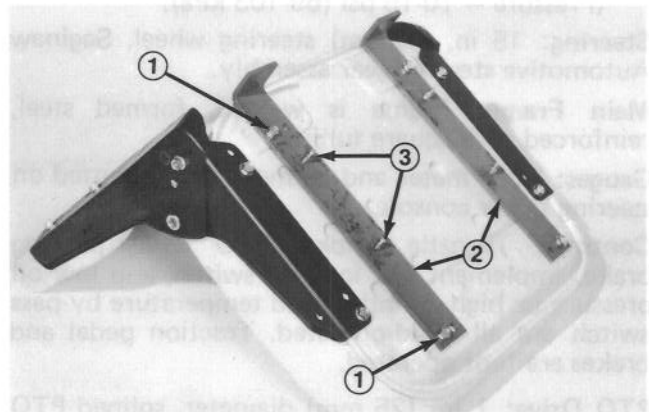

Figure 2
1. Aligning outside mounting holes of seat mounts with mounting holes in seat, position two (2) cap-screws and lockwashers for each seat spring thru seat mounts as shown in Fig. 2. Secure each seat mount, capscrows and lockwashers to seat with two (2) capscrows and lockwashers (Fig. 2).